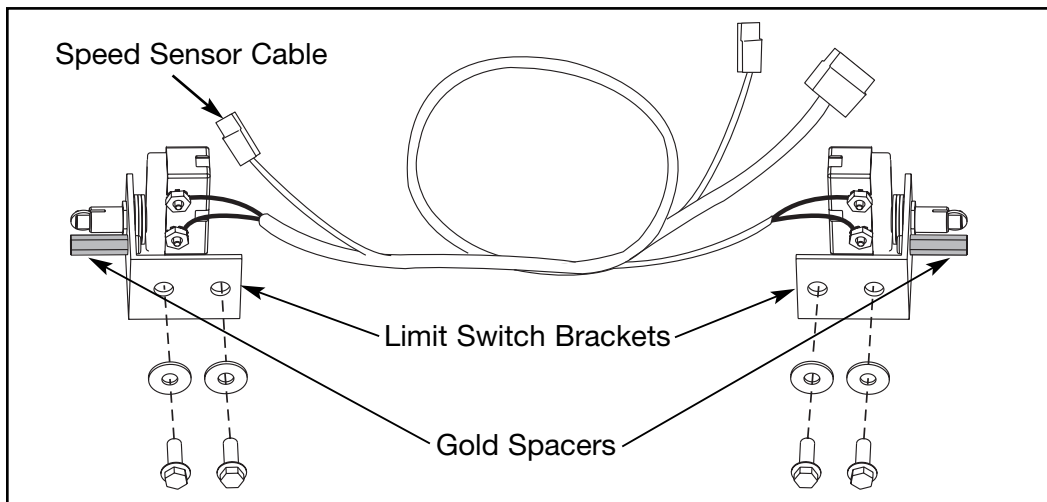

Figure 16
- A. Place the elevation limit switch assembly in position. Be sure each gold spacer is flush with the side wall of the elevation gear rack for correct gap width. See Figure 16.
- C. Connect the speed sensor cable by plugging the cable into the two pin connector on the speed sensor. See Figure 16.
- A. Connect the main power cord into the front panel and turn the power switch the on position (I).
- E. Stop the treadmill. Turn the main power switch in the front panel to the off (O) position.